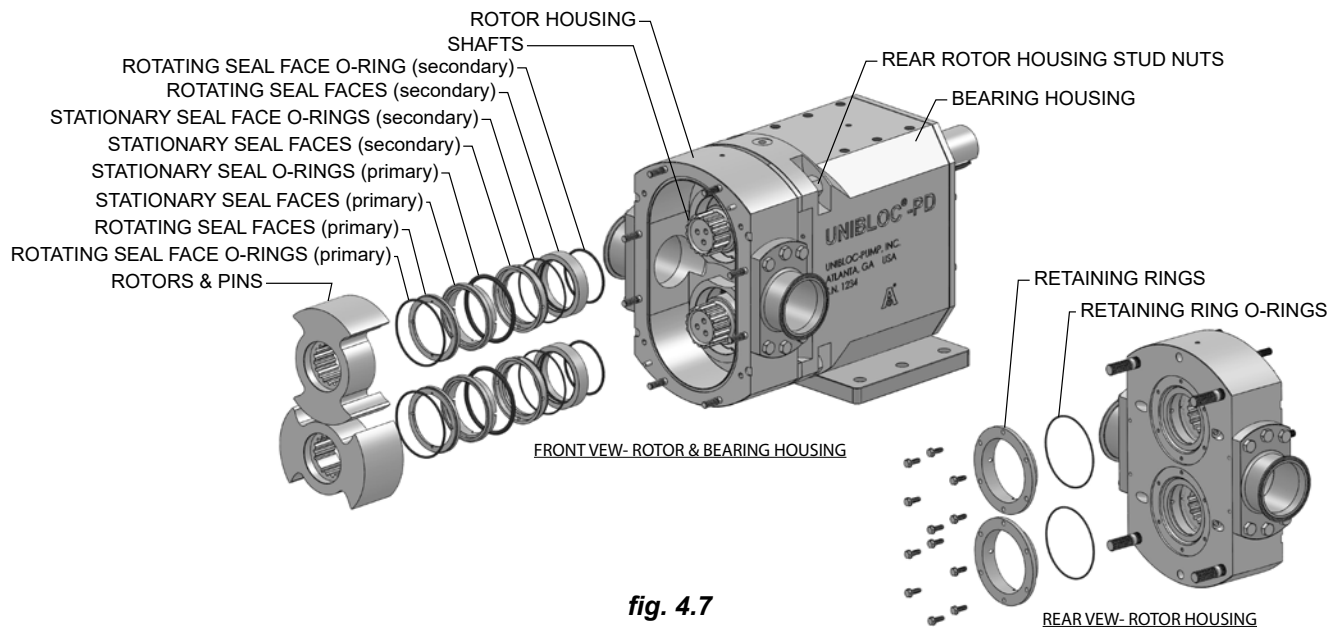
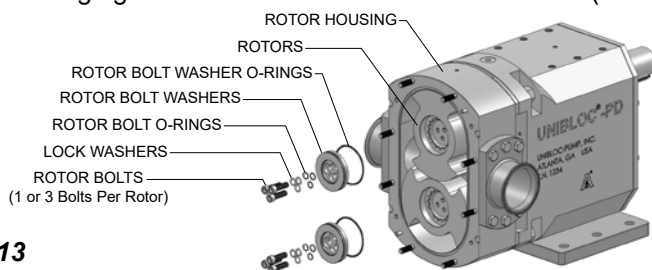

fig. 4.7
fig. 4.13
4.4.3 Double Mechanical Seal- MODELS: PD600, PD650, PD675 (reference fig. 4.7)
For stainless steel rotors, if the **Rotor Bolt Washers** were removed, replace and lubricate the **Rotor Bolt Washer O-rings** and **Rotor Bolt O-rings**. Slide **Rotor Bolt Washers** into the **Rotors**. Place a nonmetal object between the rotors to keep them from turning. Install the **Rotor Bolts** in the **Shaft** ends but do not torque them (see fig. 4.13). Remove the nonmetal object and turn the rotors to make sure they do so freely. Measure the clearances between the **Rotor Housing** and the **Rotors**. Compare these values with those listed in section 6.3. If the measured clearances at positions 1-7, 8, and 10 are smaller than those listed, the rotors must be ground and polished to achieve the correct values. If the measured clearances at positions 9 and 11 are not within the tolerances listed the rotor housing must be shimmed by removing it and changing the **Shims** as instructed in section 4.5 (see fig. 4.7).